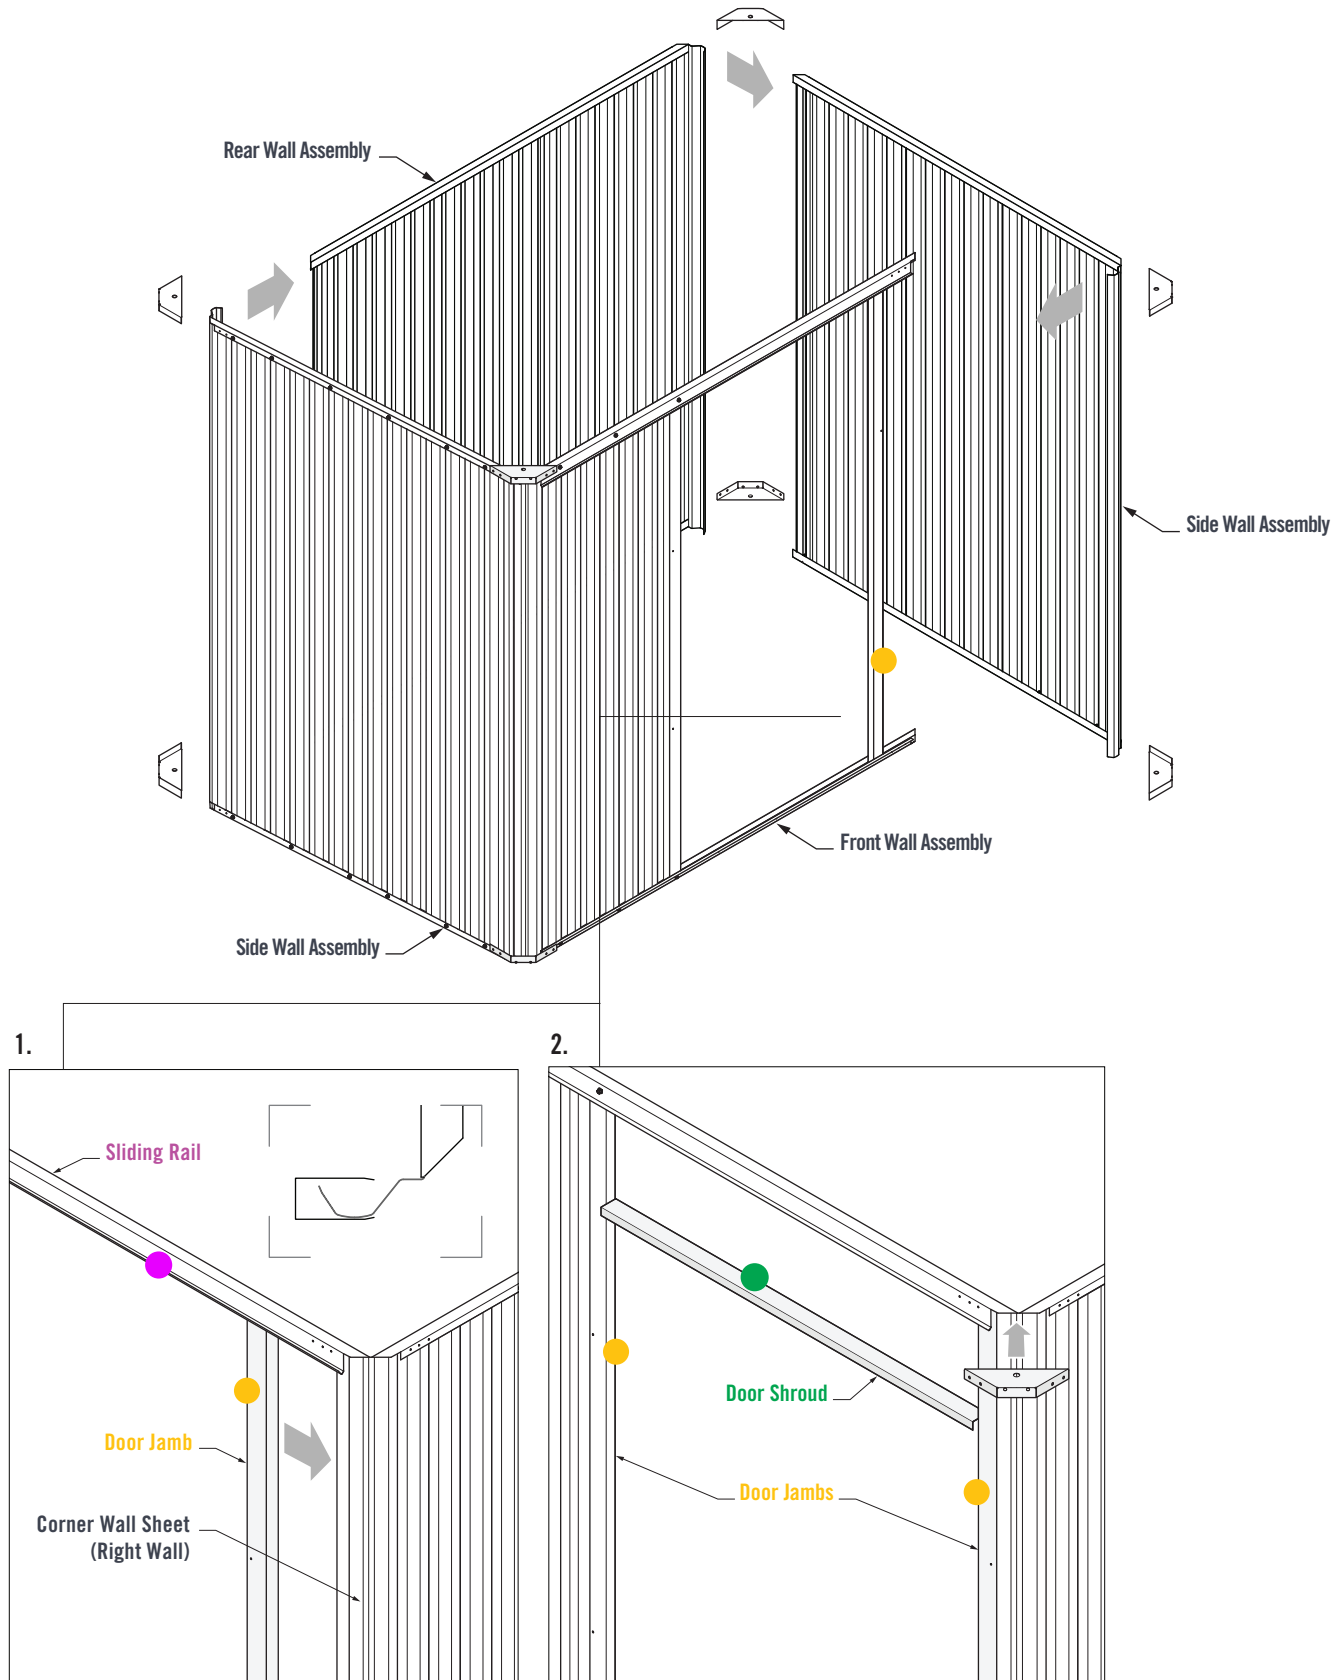

FIGURE 6.1
1. Before fixing the Right Side Wall to the Front Wall, the **Door Jamb** must be moved into position. Slide the **Door Jamb** over the corner of the Right Wall Sheet (Figure 6.1).